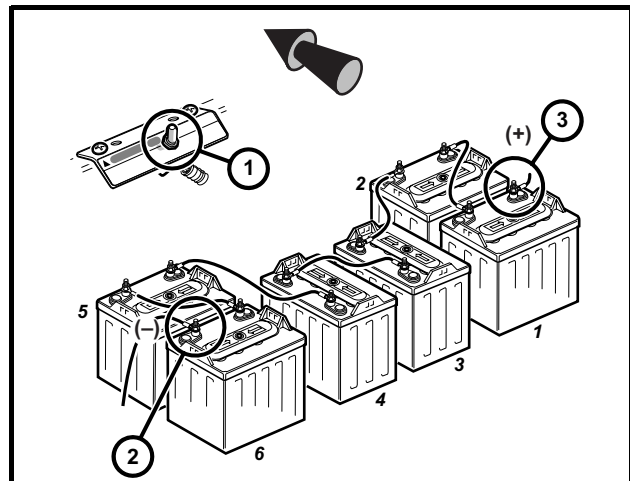

Figure 2 PowerDrive Plus and IQ System Vehicles
- To avoid unintentionally starting the vehicle, disconnect the batteries as shown (Figure 1 or Figure 2).